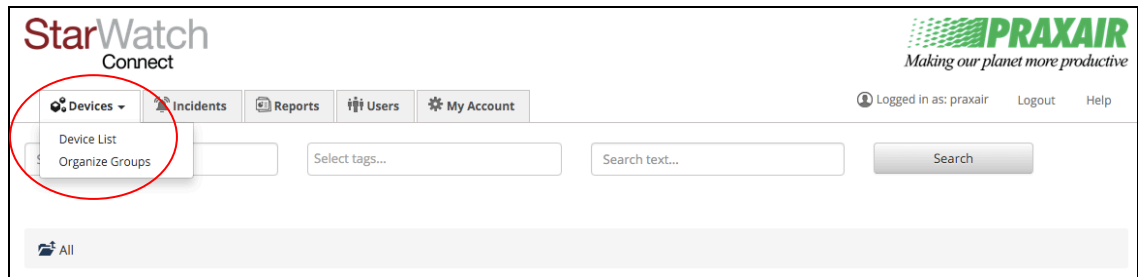

Figure 2: Devices Menu Tab Dropdown Options
2. Select either **Device List** or **Organize Groups** from the dropdown menu (see Figure 2).